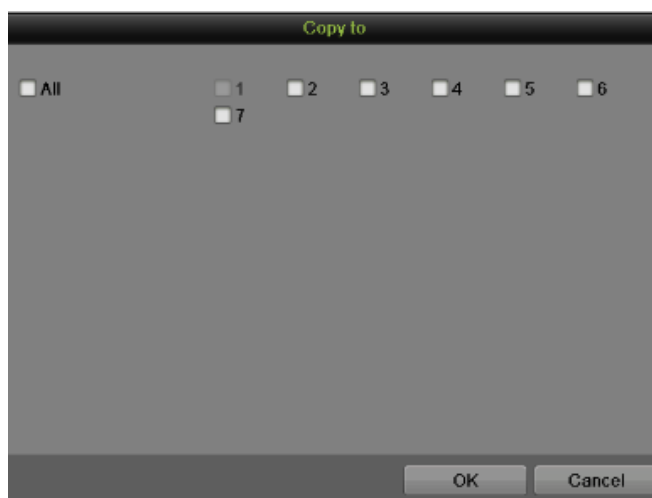

Figure 43 Copy to
- 5) Repeat the above steps to set record schedule for other days in this week. If the schedule can also be applied to other days, click the Copy button to pop-up a Copy to box, as shown in Figure 43.